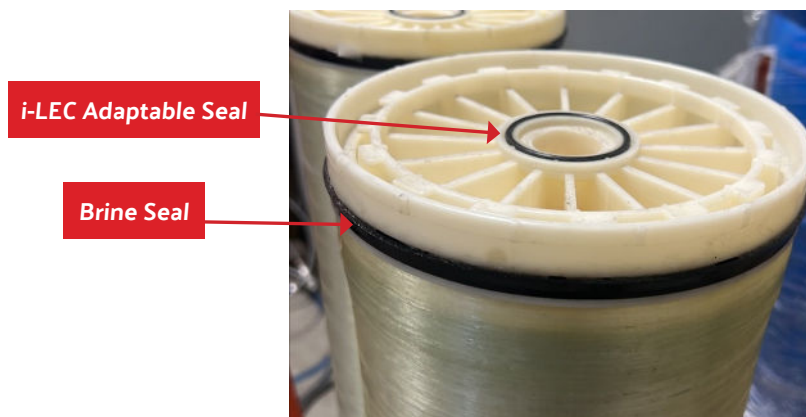

fig. 4.1.1 - 2 - Membrane seals
12. The membrane brine seal (black seal at one end of the membrane - fig. 4.1.1 - 1) must be located at the feed port end (top port) to ensure proper flow of feed water through the membrane.